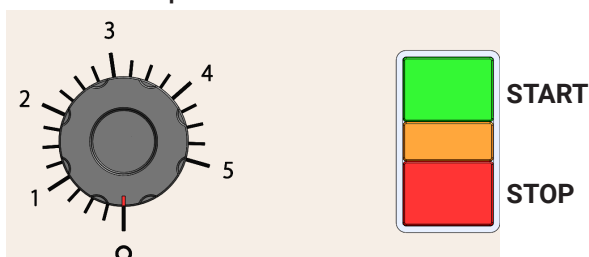

Fig. 6
- To extract the products from the machine, place an appropriately sized container under the outlet flap and then open the flap. After opening, set the timer switch (A fig. 6) no about 15 seconds and then press the START button, which causes the plate to rotate allowing the products to come out of the device. Keep the outlet flap raised all the time until the tank is empty.